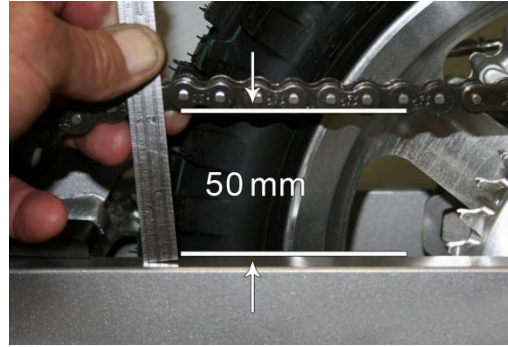

Figure 2
2. A properly adjusted chain will have 50mm (13/8") free movement behind the chain block with no load on the bike. (figure 2)